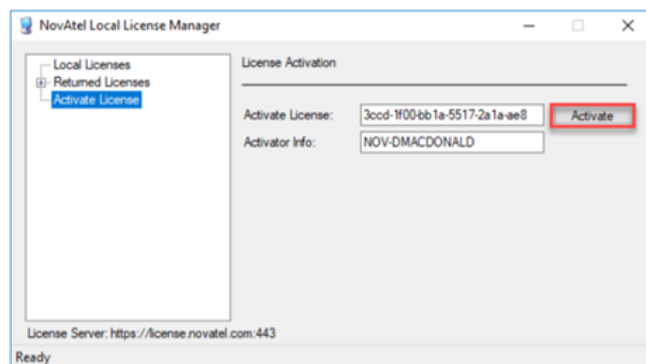

Fig. 22 APS activation step 5
8. Enter the activation code into the Activate License box of Fig. 22, and press **ACTIVATE**,